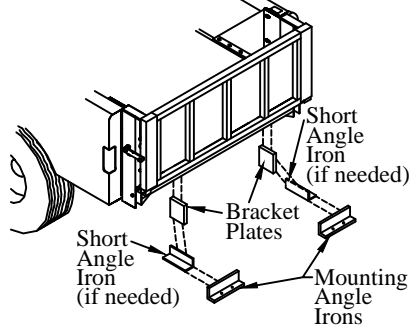

Figure 17: Lower bracket support.
2. **Bolt** the bracket plates to the truck frame (Figure 17). If possible, these may extend out to the mounting angle irons on the liftgate. Modification to the bracket plates may be required.